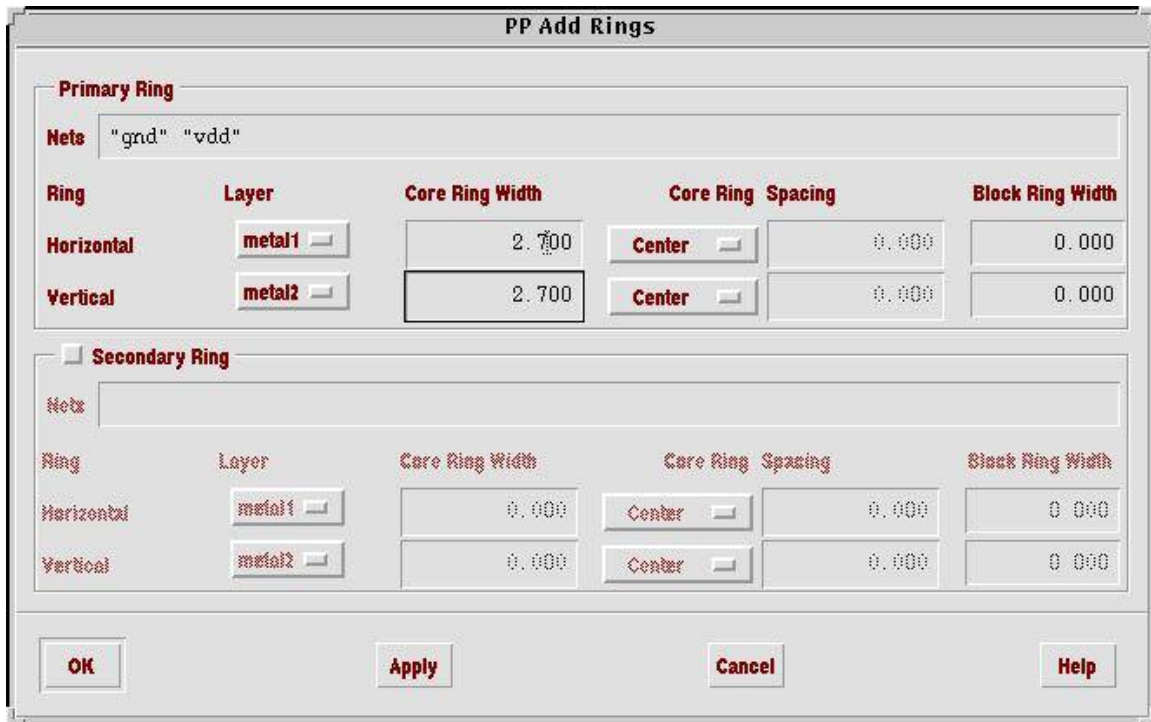
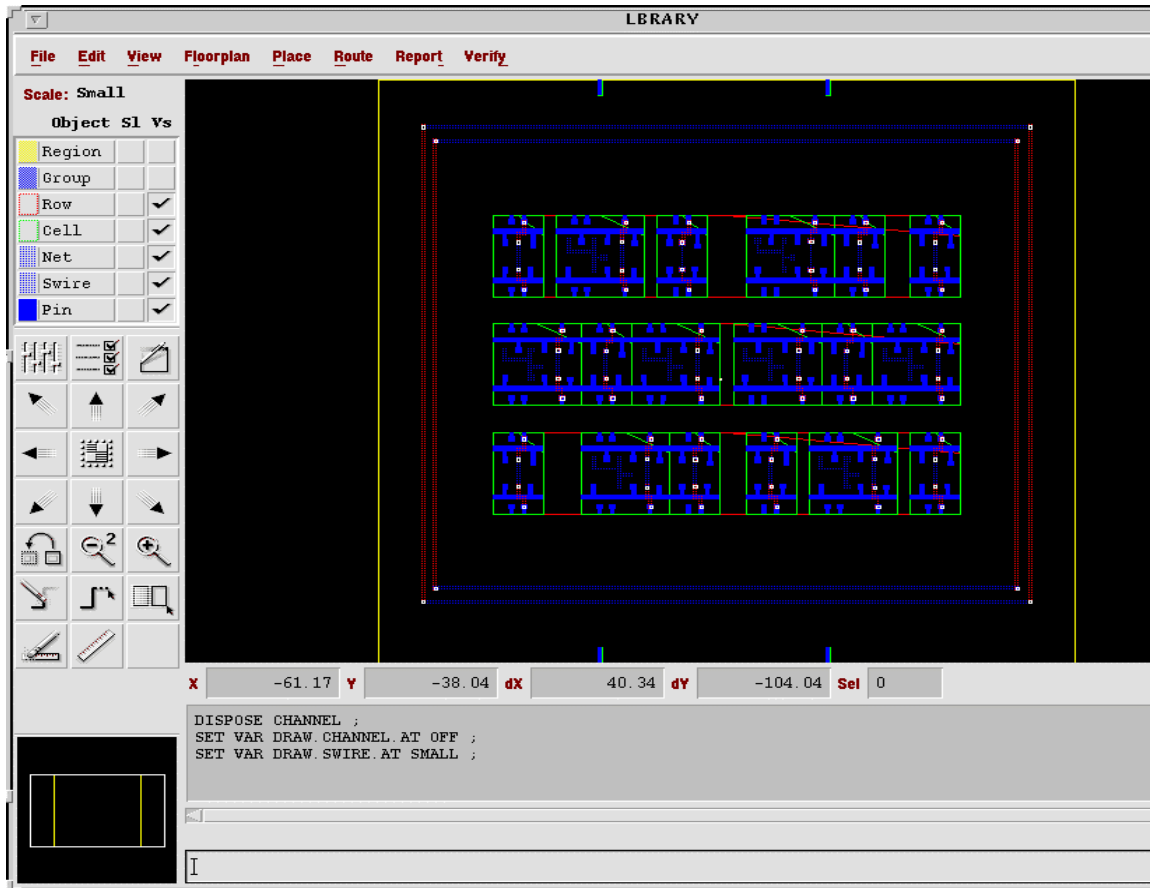

Fig 15: PP Add Rings
Fig 16: Cells with Rings
- b. The “Add Rings” window opens as shown in Fig 15. In Fig 15 set the **Core Ring Width** to 1.2 microns and click **OK** to apply the rings and close the “Plan Power” window. The **Core Ring width** can be set to be a multiple of 1.2. Fig 16 shows that the rings are placed.
- c. In Fig 16 select **Route** → **Connect Ring** and the “Connect Ring” window opens as shown in Fig 17. In Fig 17 click **OK**. This will connect your power and ground rings to your cell rows. Fig 18 shows that the cell rows are connected to the power and ground rings. Thus the Power and Ground routing is done.